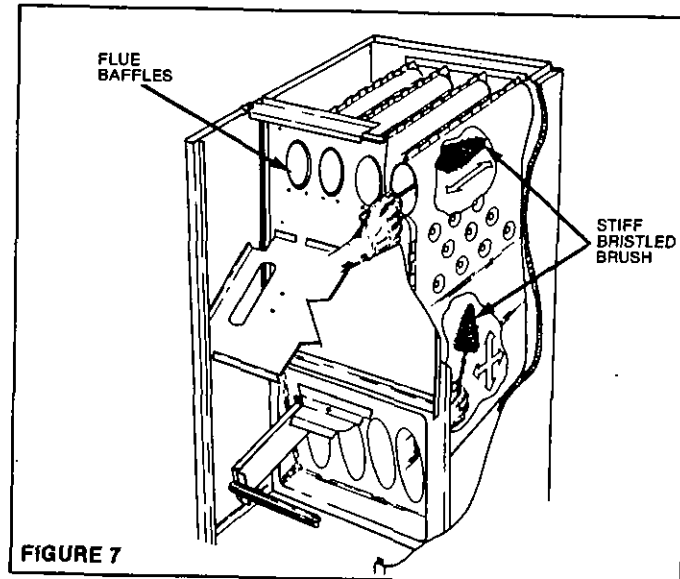

FIGURE 7
8. Begin by cleaning the upper part of the heat exchanger with a stiff bristled brush taking care not to change location of baffles in the tubes. After each opening at the top of the heat exchanger is brushed, repeat operation at the bottom. Use a front to back motion with the brush. After each section has been brushed, use a vacuum with a long hose to pick up residue that falls to the bottom of each section. See Figure 7.